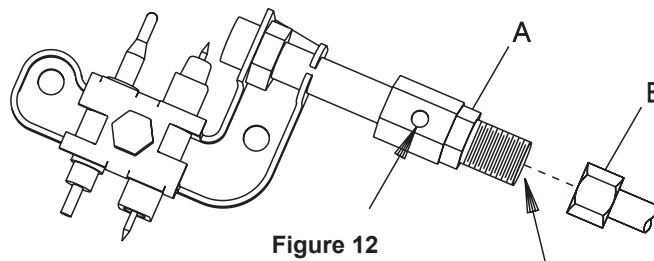

Figure 12
## Oxygen Depletion Sensor Pilot - See Figure 12
2. Apply air pressure through the holes in the pilot indicated by the arrows in **Figure 12**. This will blow out foreign materials such as dust, lint and spider webs.
5. Disconnect pilot tubing from pilot. **See Figure 12, Page 12.** Grasp nut A with a wrench when removing nut B with a second wrench.
- c. Pilot is blocked from spider web or dirt - clean pilot, see **Figure 12**, Page 13.
- d. Pilot flame not surrounding thermocouple - clean pilot, see **Figure 12**, Page 13.
- a. Pilot is blocked - clean pilot, **See Figure 12**, Page 13.